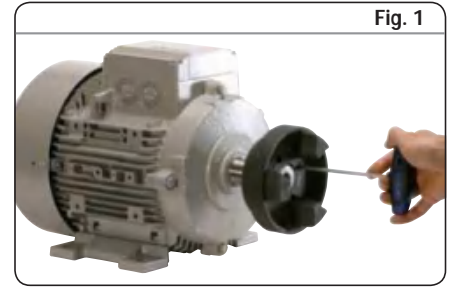

Fig. 1
- 1 Place the couplings on their shafts so that shaft ends do not protrude into the internal section of the coupling. Then tighten the screws on the taper bushing to the torque values listed in the mounting instructions († fig. 1).